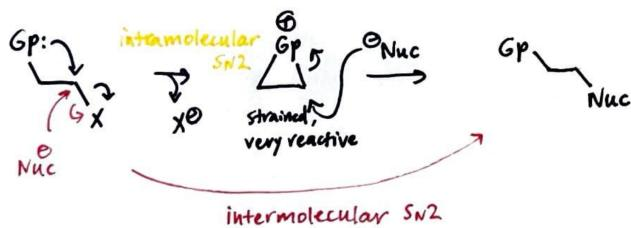

Figure 6.29: Neighboring group participation.
- Neighboring group participation (Figure 6.29).
- Tonight (W) from 7:00-9:00 PM in 1-190.
- Tomorrow (R) from 7:00-9:00 PM in 1-190.